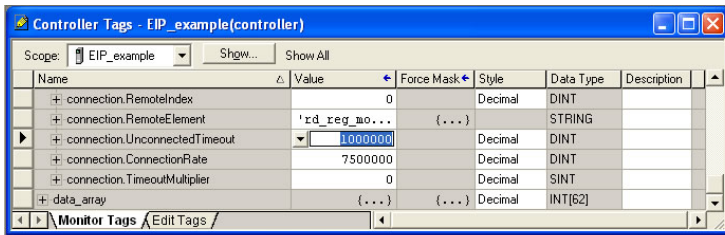

Figure 94: Reduce the UnconnectedTimeout Value
- e) Select the “Monitor Tags” tab. Expand the “connection” tag by clicking on the “+” sign next to the tag name. Scroll down to the connection.UnconnectedTimeout field and change its value from the default 3000000 (30s in 1uS increments) to 1000000 (1s). This value determines how long to wait before timing out and retransmitting a connection request if a connection failure occurs. Refer to Figure 94.